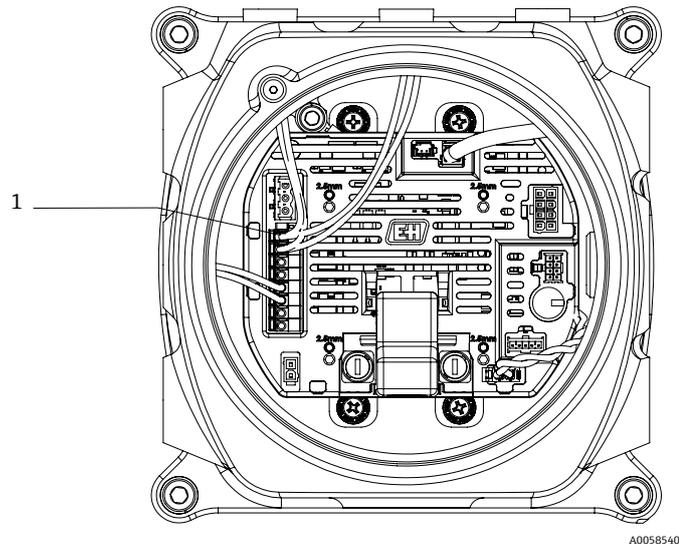

Figure 11. Mac internal view with solenoid connectors and disengagement tabs (1)
- i** On one-point auto or manual validation configurations, both solenoids are paired together in terminals 1 and 2, as shown in Figure 11. They are installed into the same terminal so both solenoids operate at the same time.